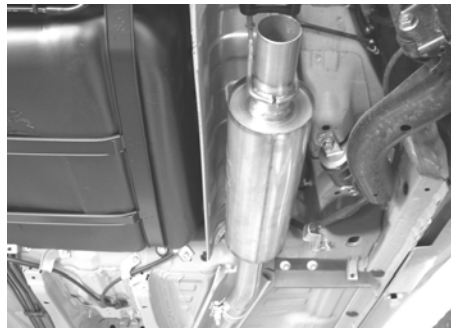

Figure 6
2. Place a clamp over the expanded end of mid muffler assembly and set it into position as shown in figure 6 installing the hanger into the rubber bracket. DO NOT tighten the clamp.